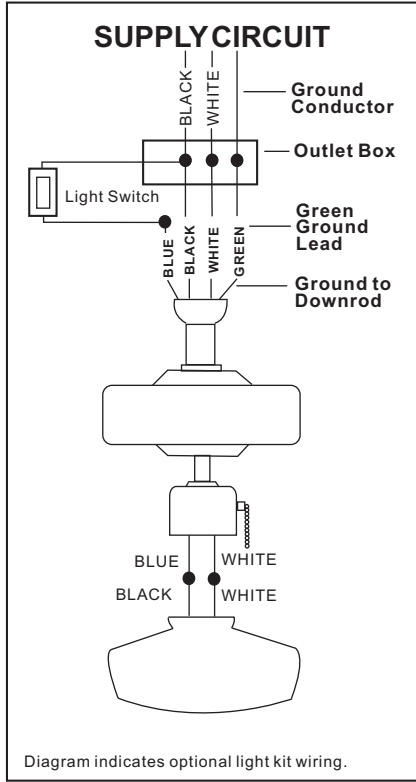

Figure 7
3. Figures 7 and 8 illustrate the wiring connections for optional wall control (available at your Hampton Bay Retailer, the wire color out of wall control's installation manual for correct wire connections).